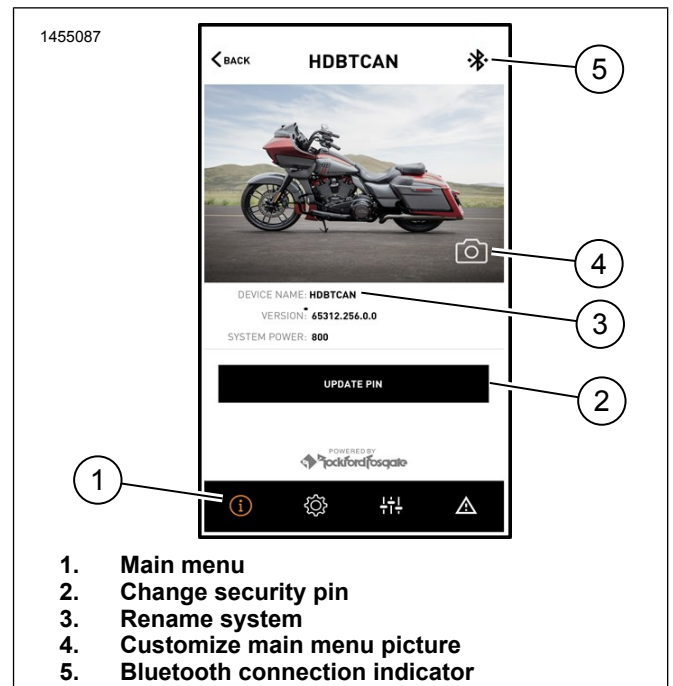

Figure 8. Main Menu
2. See Figure 8. Main menu screen.
- a. Main menu icon (1).
- b. Reset or change security personal identification number (PIN) (2).
- c. Edit and rename your system (3).
- d. Customize main menu with your bike picture (4).
- e. Bluetooth connection indicator. Slash through symbol indicates: Not Connected (5).